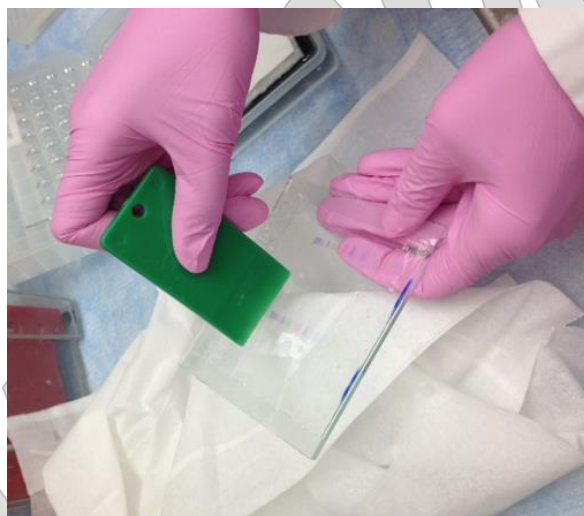

Figure 7b
5.4.3. Dissassemble the gel running apparatus using the plate separator. Cut the stacking gel from the separating gel part and discard it. (Figure 7b)